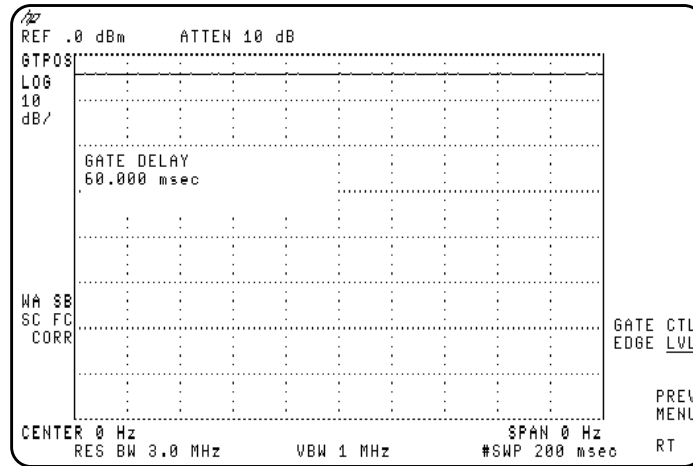

Figure 67 Using the Level Gate Control
- 4 To check the gate control function, press (SWEEP), Gate Control, GATE CTL EDGE LVL so that LVL (level) is underlined. See Figure 67 on page 144.